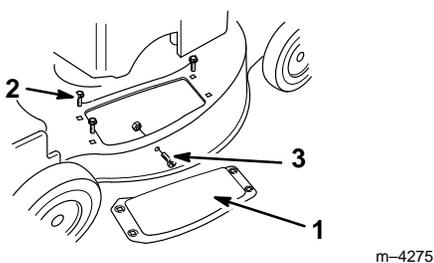

Figure 32
- Remove and save the three bolts securing the discharge cover to the mower (Fig. 32). Save the cover and bolts for future use.
- Bolt (3)
- Remove the screw and nut from side of the mower (Fig. 32). Save them for future use.